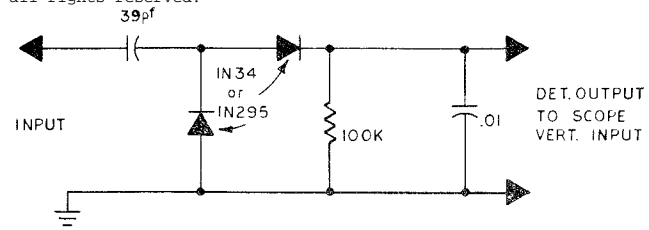

Figure 4-6. High-Impedance Detector
1. With transceiver OFF, connect RF-output cable of sweep generator to transceiver antenna connector J201. Connect a high-impedance detector (Figure 4-6) to gate 1 of 1st mixer Q103; then, connect detector output to oscilloscope vertical input.
1. Connect a high-impedance detector (Figure 4-6) to drain of FET amplifier Q105; then, connect detector output to scope vertical input. Set scope vertical attenuator to its most sensitive position.